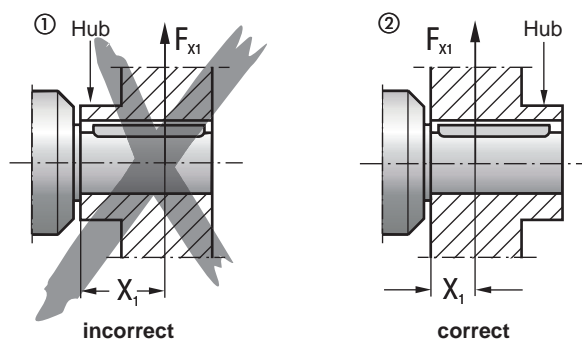

Figure 4: Correct mounting arrangement of a gear or sprocket wheel
Figure 4 shows the correct mounting arrangement ② of a gear or sprocket wheel in order to avoid excessive overhung loads.
- Mounted transmission elements should be balanced and may not cause any unacceptable radial or axial forces (see Figure 4 / see "Geared Motors" catalog for approved values).